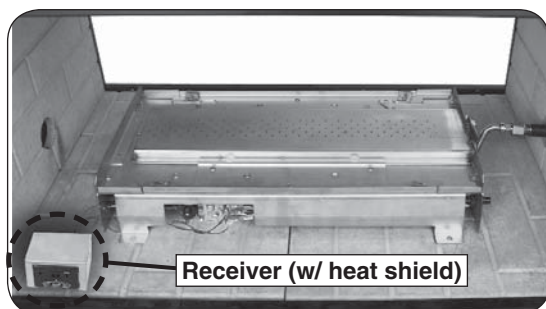

Fig. 14-4 Place remote receiver
3. **Route the wires into the burner and out of the left side, then place the remote receiver with metal heat shield at the front left corner of the fireplace. Place as far from the burner system as possible.** See Fig. 14-4.